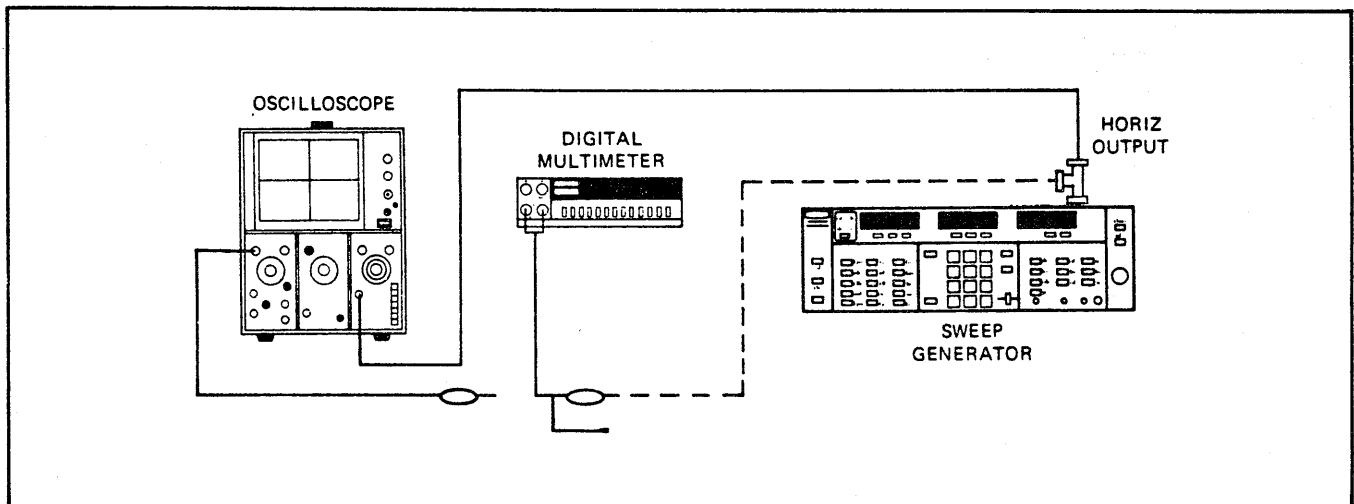

Figure 5-5. Test Equipment Setup for A2 Ramp Generator Adjustments
1. Connect test equipment as shown in Figure 5-5, and turn the equipment on.